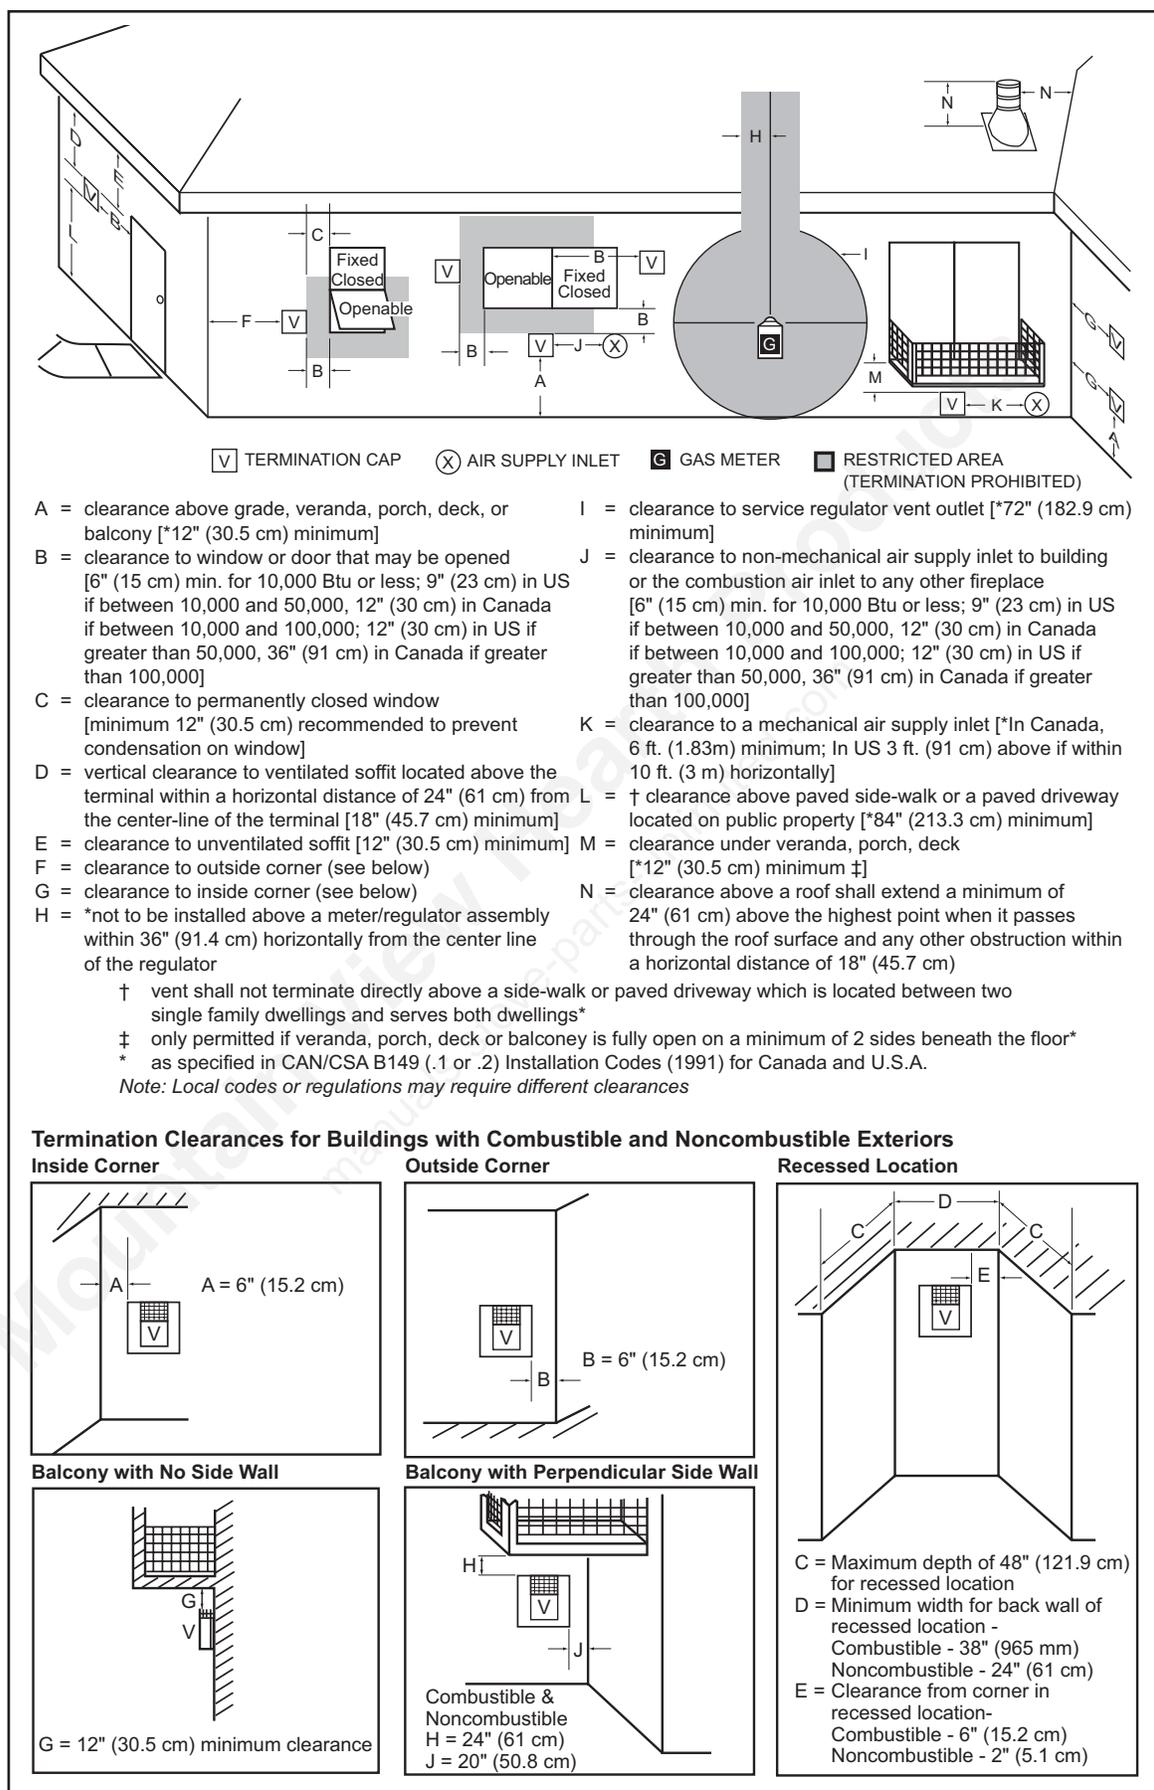

Figure 7 - Minimum Clearances for Termination Cap
- When locating termination cap, it is important to observe the minimum clearances shown in Figure 7, page 10.
Horizontal vent systems terminate through an outside wall. Building Codes limit or prohibit terminating in specific areas (Figure 7, page 10).